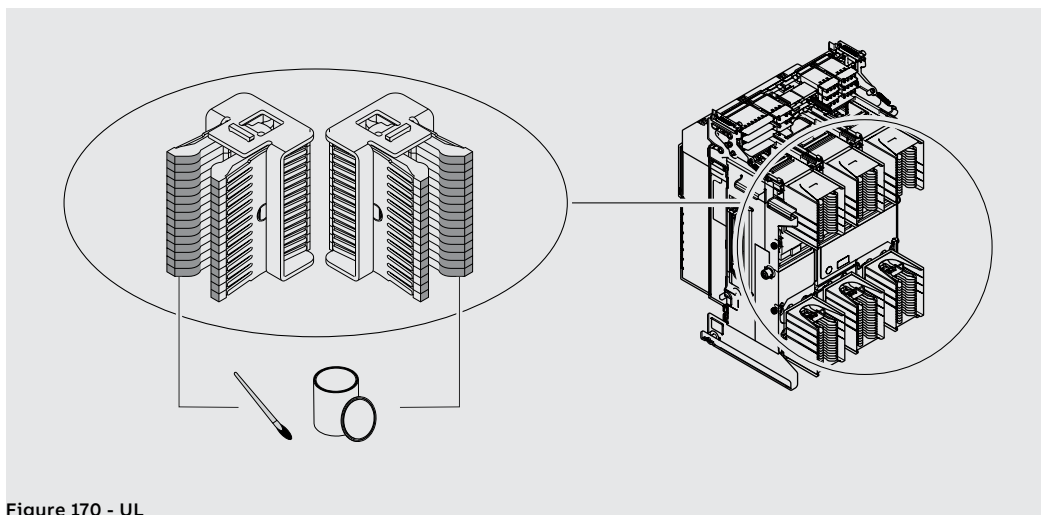
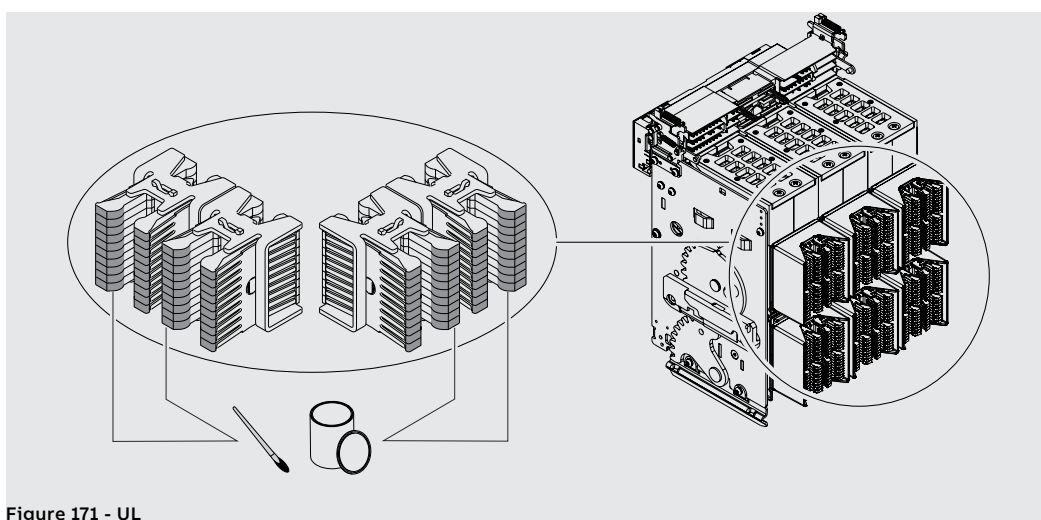

Figure 170 - UL
Figure 171 - UL
2. Lubricate the jaw-type isolating contacts with Mobilgrease 28 in the indicated points (EXXON MOBIL) (Figure 170 - UL for E1.2; Figure 171 - UL for E2.2, E4.2 and E6.2).